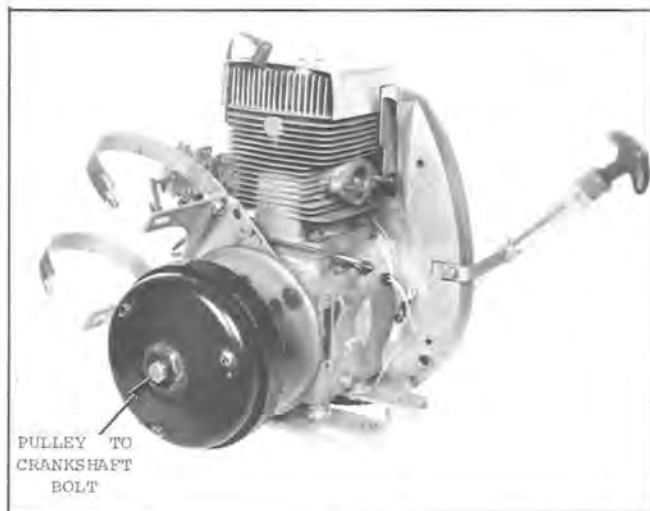

Fig. 58 — Installing Drive Pulley onto Crankshaft — L 380 Engine
4. Reinstall drive pulley (either assembly) by first preassembling it. Position it over crankshaft and install its retaining bolt to secure pulley. See Fig. 58.